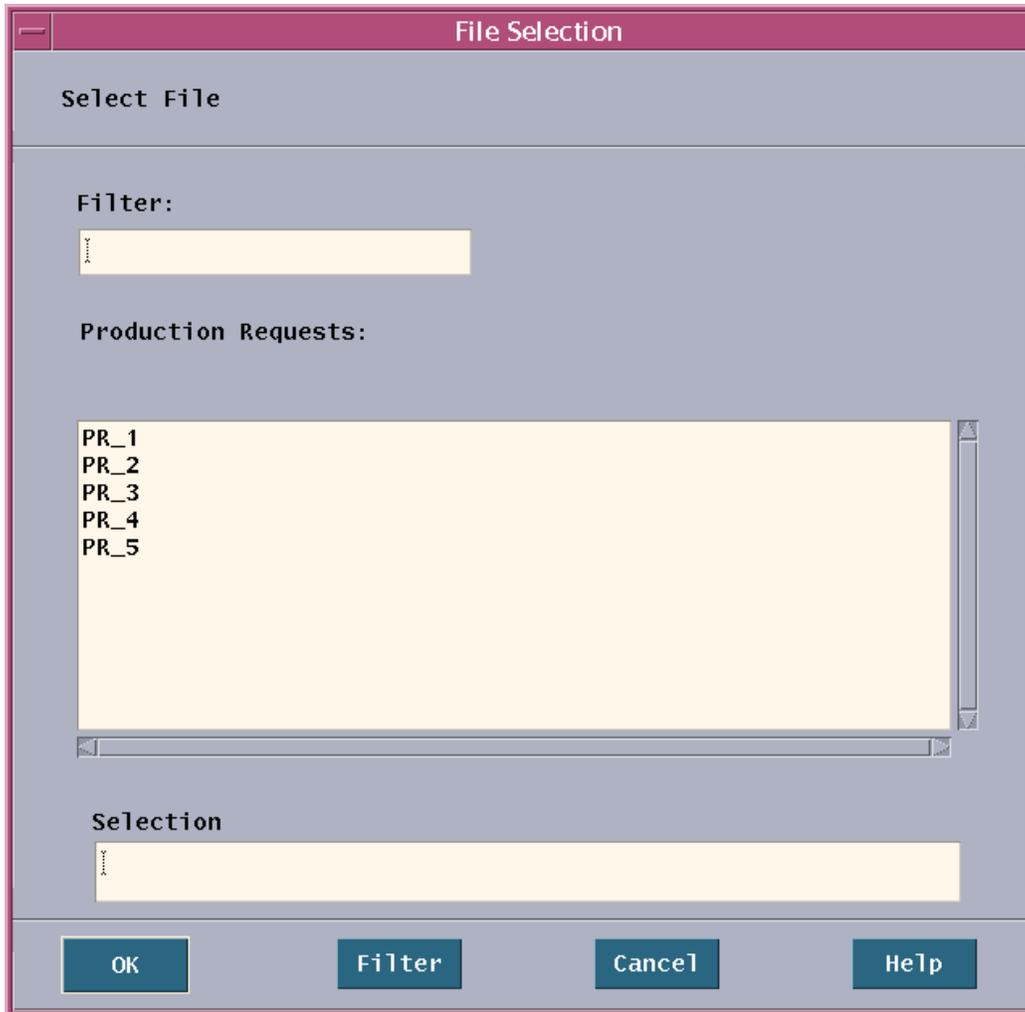

Figure 21. Production Request Editor File Selection Window
- The **File Selection** window (Figure 21) is displayed.